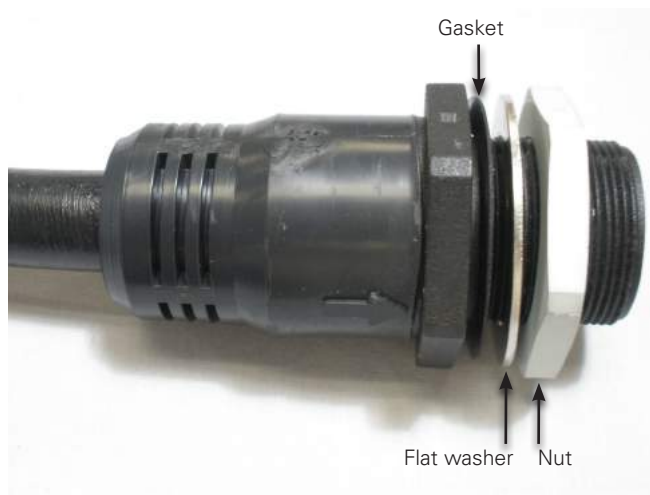

Figure 1. Control cable female connector and components.
1. Remove the nut, flat washer, and gasket from the female connector of the control cable (Figure 1).